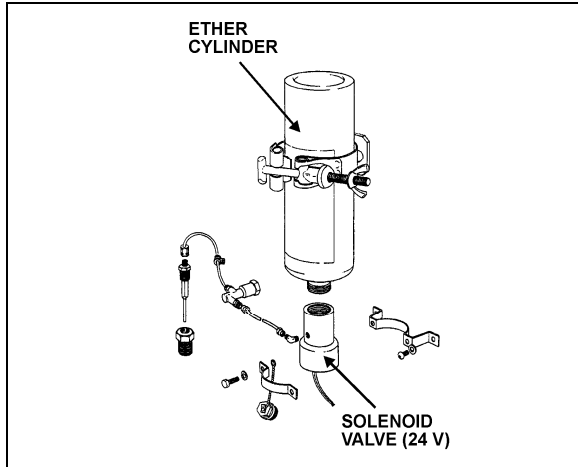

FIGURE 20: COLD STARTING AID 23048
1. Check cylinder for hand tightness and fuel supply (Fig. 20). Empty cylinder weight is approximately 17 oz (480 g); full cylinder weight is approximately 35 oz (990 g). If cylinder is empty, replace it. Before replacing cylinder, install new valve gasket in solenoid valve.